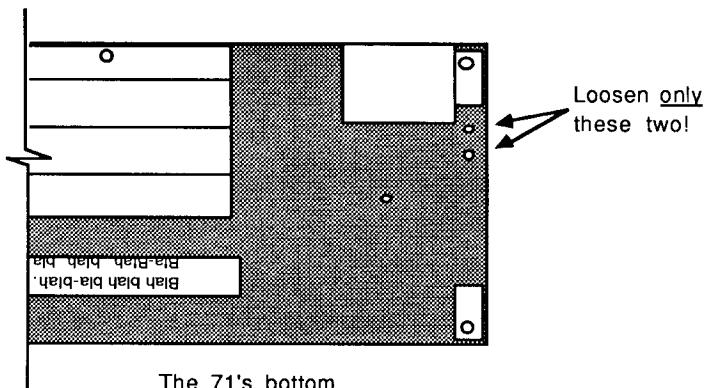

Figure 9-7
4) Notice the three remaining tiny brass screws on the surface facing you. Using the flathead jeweler's screwdriver, loosen ONLY the two which are clumped together. See Fig. 9-7.